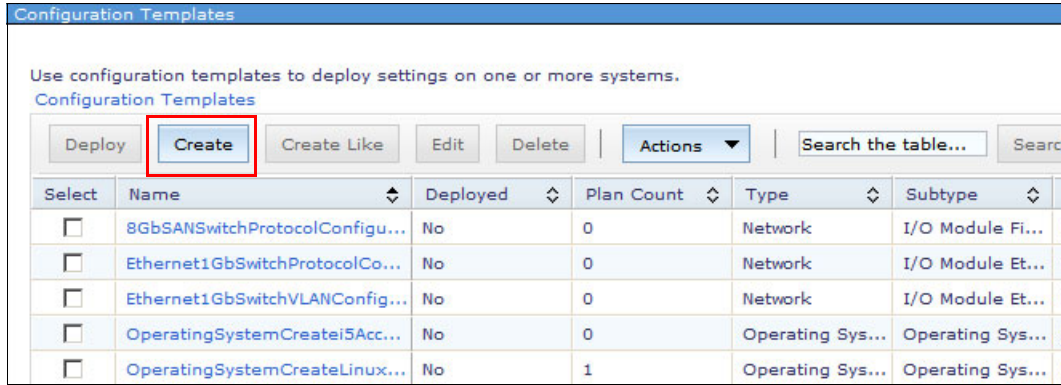

Figure 9-66 Configuration Templates window
2. On the Configuration Templates page, shown in Figure 9-66, click **Create**.